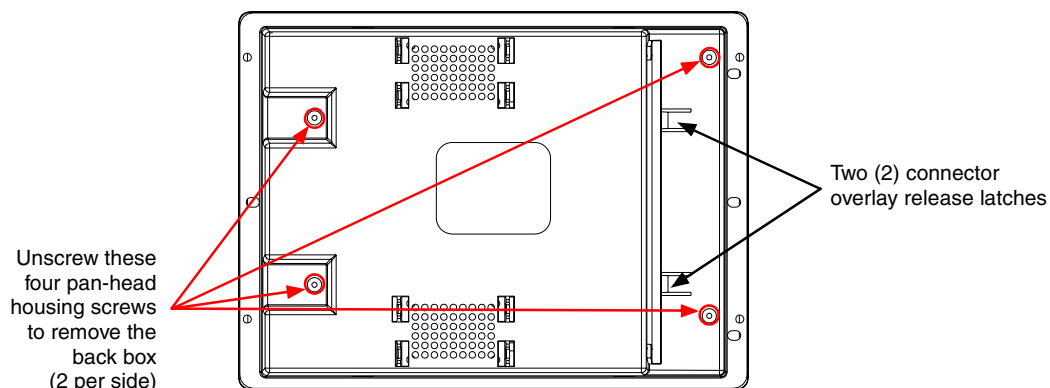

FIG. 22 Location of the attachment screws and connector overlay release latches on an NXD back box
2. Place the LCD facedown on a soft cloth to expose the under-side of the unit (FIG. 22). This step helps prevent scratching of the LCD.
5. Unscrew the outer housing (back box) by using a grounded Phillips-head screwdriver to remove the two sets of pan-head Housing Screws, located on both sides of the housing (FIG. 22).